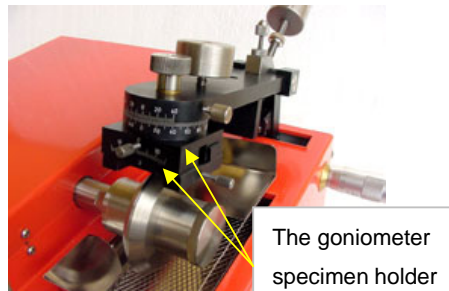

Figure 4
- Place the aluminum block with the mounted specimen into the goniometer specimen holder by loosening the thumbscrew on the side of the goniometer. (Fig.4)